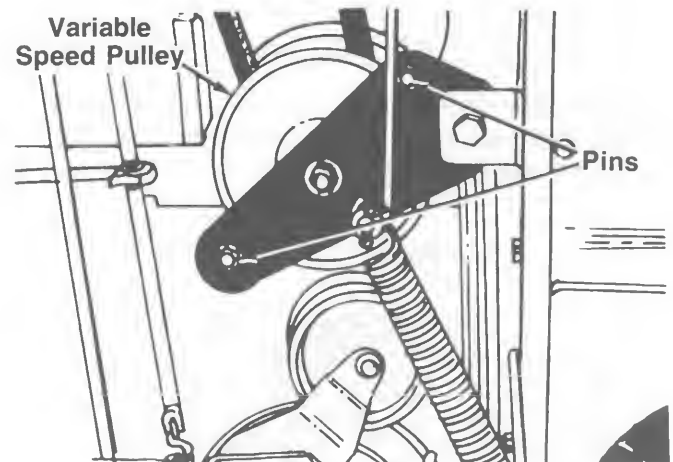

FIGURE 29.—Model 784G
10. Move the variable speed pulley as necessary in order to remove the belt. See figure 29.
NOTE: When reassembling, make certain belt is inside the pins as shown in figure 29.